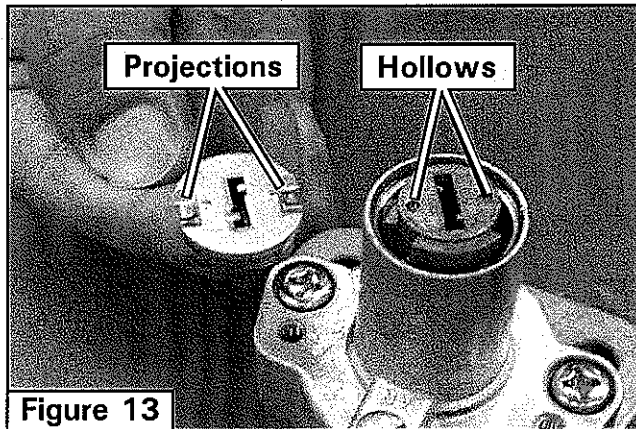

Figure 13
10. Place the shutter from the original ignition switch on the rotor, aligning and placing the projections into the hollows (Figure 13). The shutter can be aligned one of two ways 180° apart. Either way is correct.